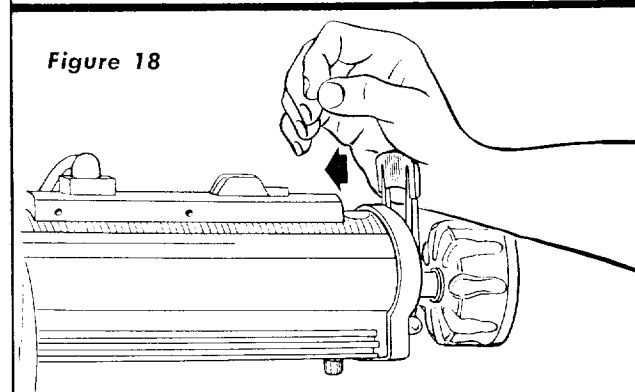

Figure 18
- Pull the arm latch lever (figure 13) outward and move radial arm approximately 10° to the right. Release arm latch lever and move radial arm into the 0° (index) position. Do not bump or jar the arm. Push the arm latch lever solidly with palm of hand in order to seat the arm lock pin in the arm latch. (See figure 18.)